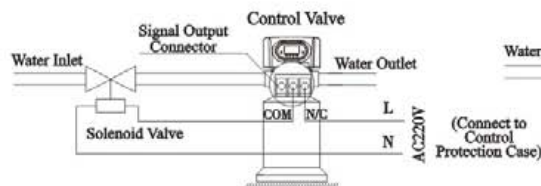
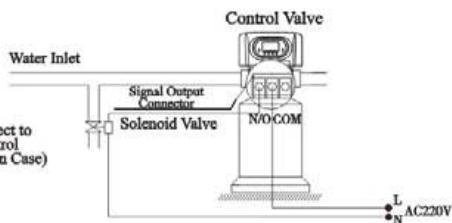

Figure 3-2 Wiring of Solenoid Valve on Inlet
Figure 3-3 Wiring of Pressure Relief port
②Solenoid Valve on Inlet (Set b-02)
**Instruction:** When inlet pressure exceeds 0.6MPa, install a solenoid valve on inlet. Control mode is b-02. Pressure relieved when valve switching, the wiring refer to Figure 3-2. As Figure 3-3 shows, it also can use the pressure relief port to work.